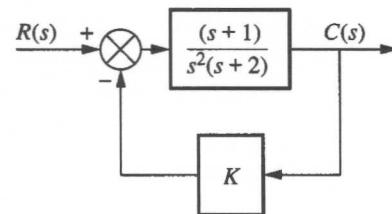

Figure 3
3.4 (10 points) For the system shown in Figure 3, find the following